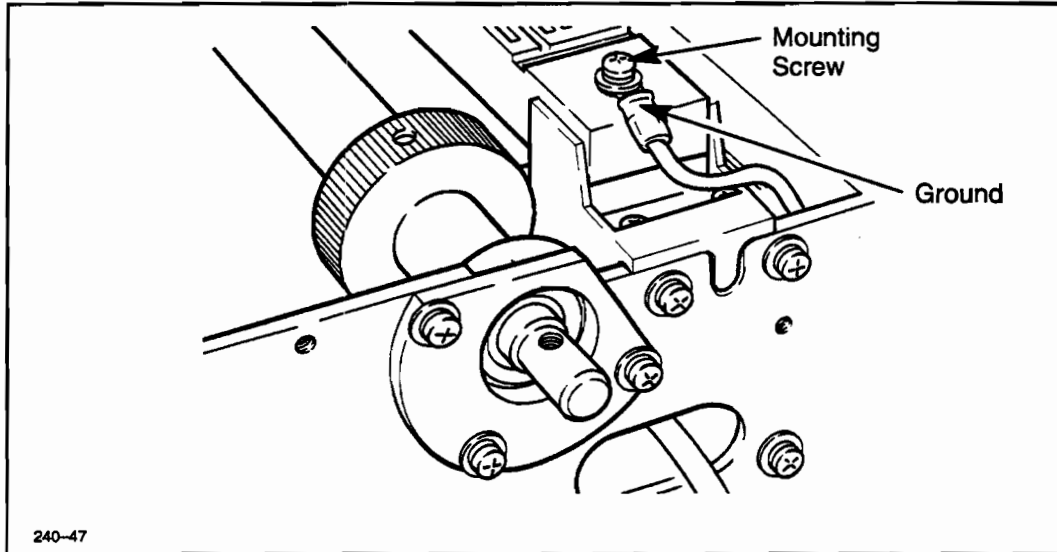

Figure 6-56. Developer Bar Removal
6. Using a #2 Phillips screwdriver, remove the screw that holds the ground wire to the right end of the developer. See Figure 6-56.